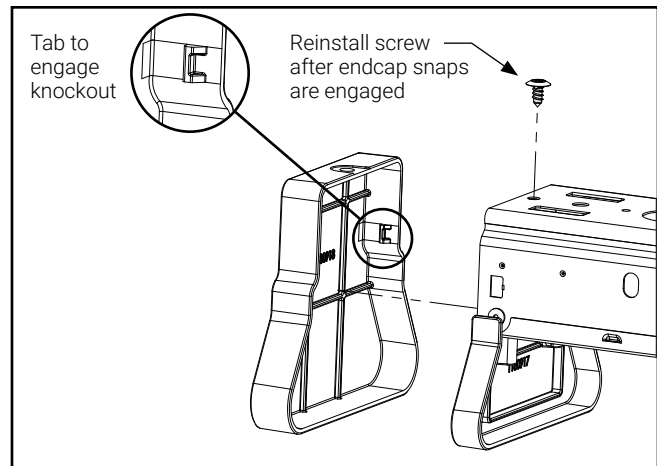

Figure 3.
4. Put decorative endcap on the fixture and push until snaps engage with the knockouts removed in Step 2 and reinstall screw removed in Step 3 (Figures 3 and 4).